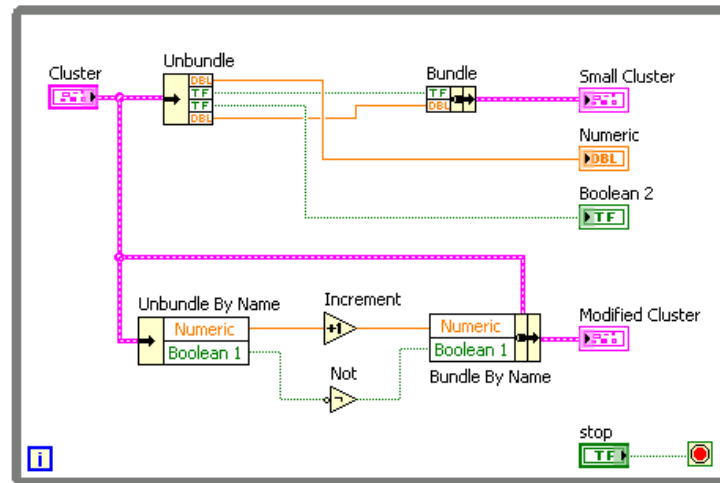

Figure 6.9
1. Build the block diagram in Figure 6.9.
(h) Complete the block diagram and wire the objects as shown in Figure 6.9.